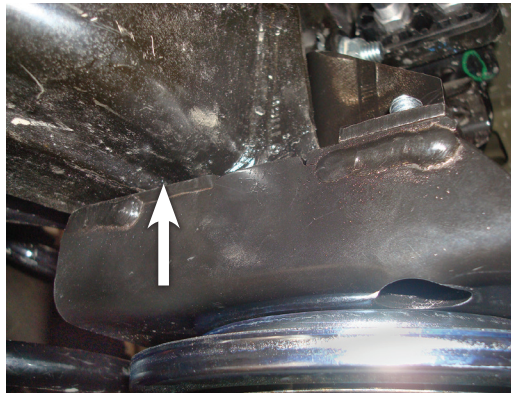
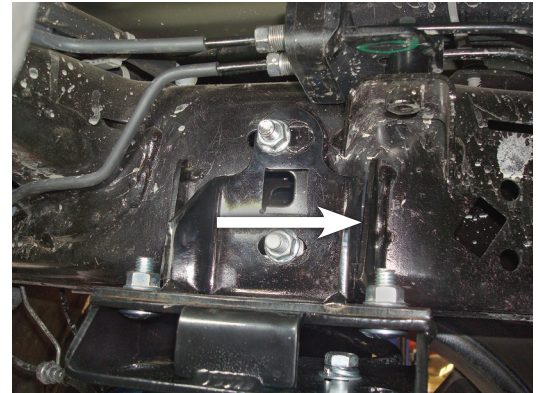

Fig. 20
Fig. 21
8. Making sure that the upper brackets are flat to the frame (Fig. 20). Push the upper assembly forward as far as it can go until the upper brace butts against the jounce bumper bracket that was left on the frame (Fig. 21). Torque the frame brace hardware first, then the upper bracket to brace hardware to 31 lb.-ft. (42Nm).